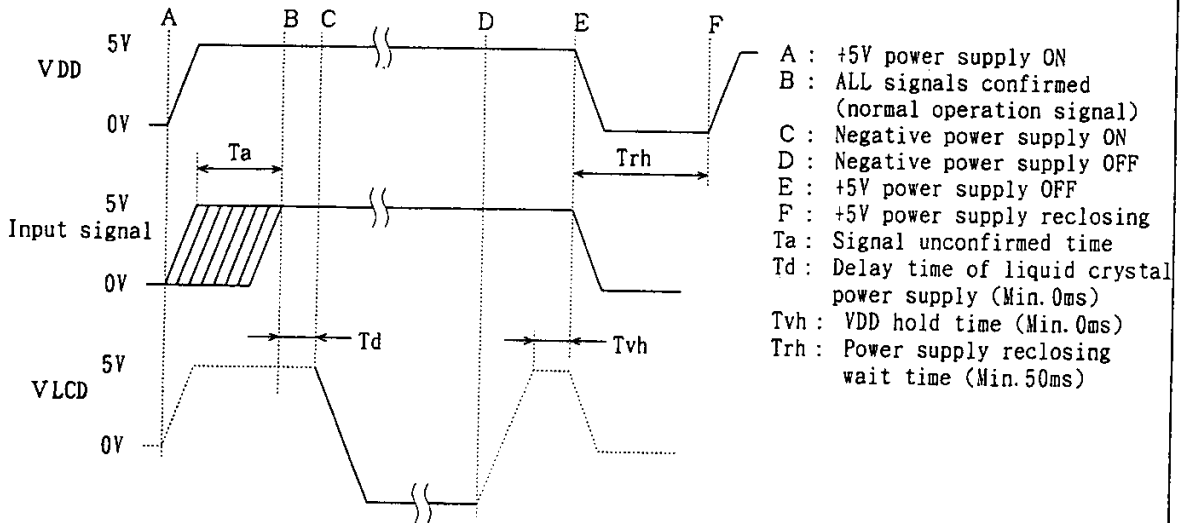
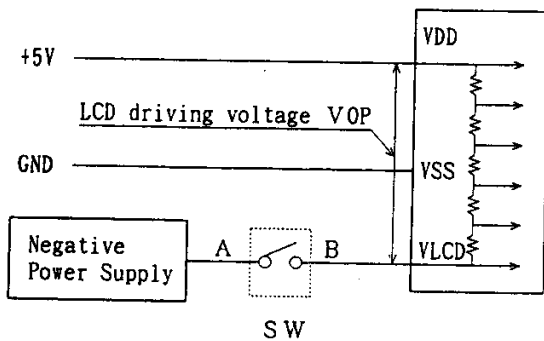
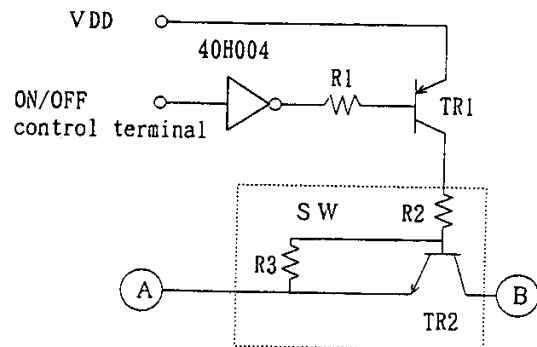

Fig. 1 Power supply ON/OFF sequence
Fig. 2 Example of power supply connection
Fig. 3 Example of SW section circuit
- When turning the power supply ON/OFF, strictly follow the sequence shown in Fig. 1 so that latch-up and DC driving of the LCD Module can be prevented.
- Fig. 1 shows the voltage levels at the module terminal section when the module is connected to a power supply and signal lines.
- Regarding VLCD in Fig. 1, the dashed line shows the OFF status of SW in Fig. 2, while the solid line indicates the ON status.
- Prepare the negative power supply shown in Fig. 2 with a capacity that is at least sufficient to handle the current of the liquid crystal power supply in DC characteristics.
- Fig. 3 provides an example of the circuit for SW section in Fig. 2.